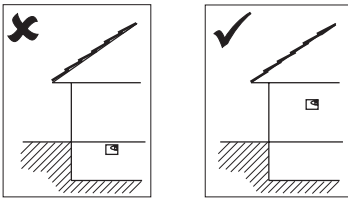

Figure 3. Selecting the control panel installation location.
1. Do not install the control panel in premises located below ground level - Figure 3. Where this cannot be avoided, install the panel as high as possible.